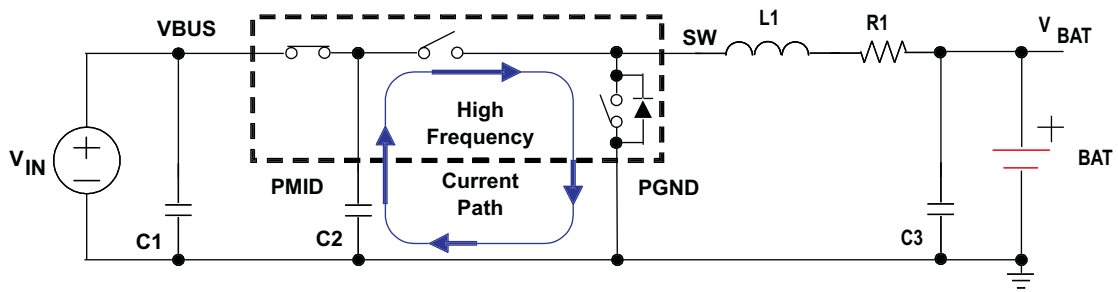
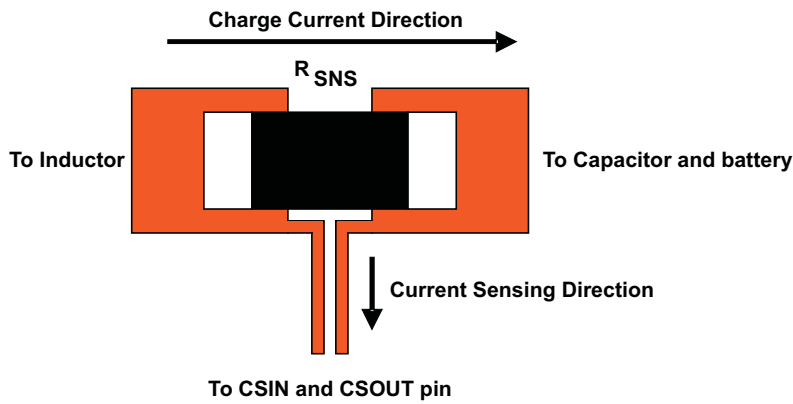

Figure 35. High Frequency Current Path
Figure 36. Sensing Resistor PCB Layout
4. Measured efficiency and total power loss with different inductors are shown in Figure 34. SW node and inductor current waveform are shown in Figure 35.
- To obtain optimal performance, the power input capacitors, connected from input to PGND, should be placed as close as possible to the pin. The output inductor should be placed close to the IC and the output capacitor connected between the inductor and PGND of the IC. The intent is to minimize the current path loop area from the SW pin through the LC filter and back to the PGND pin. To prevent high frequency oscillation problems, proper layout to minimize high frequency current path loop is critical. (See Figure 35.) The sense resistor should be adjacent to the junction of the inductor and output capacitor. Route the sense leads connected across the RSNS back to the IC, close to each other (minimize loop area) or on top of each other on adjacent layers (do not route the sense leads through a high-current path). (See Figure 36.)